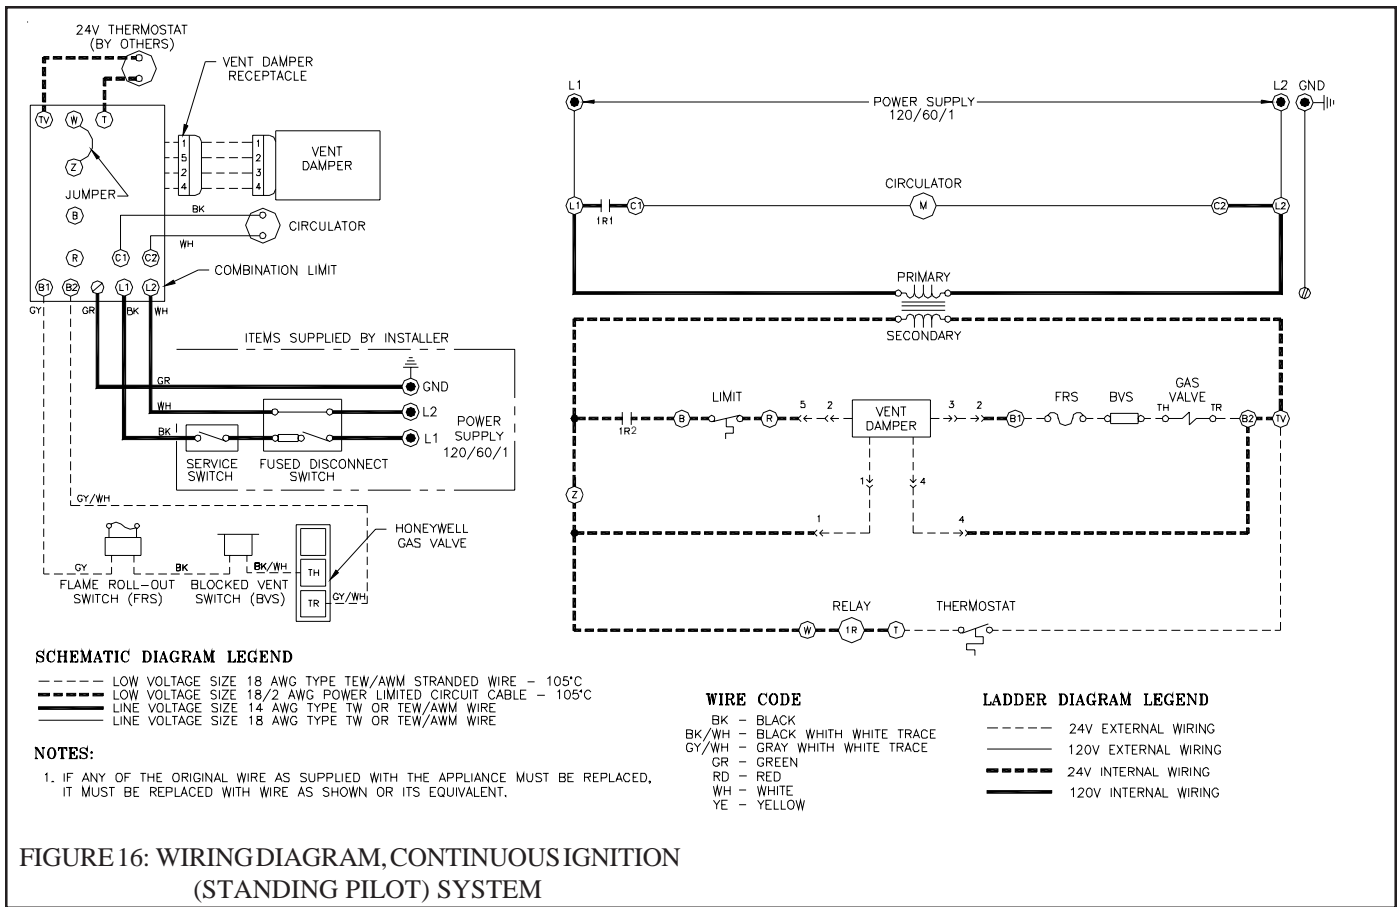

FIGURE 16: WIRING DIAGRAM, CONTINUOUS IGNITION (STANDING PILOT) SYSTEM
- 1) **120 Volt Wiring** - The boiler should be provided with its own 15A branch circuit with fused disconnect. All 120 volt connections are made inside the L8148E aquastat relay as follows (also see Fig. 16 or 17):
(Refer to Figures 16 or 17 for ladder and connection diagrams)